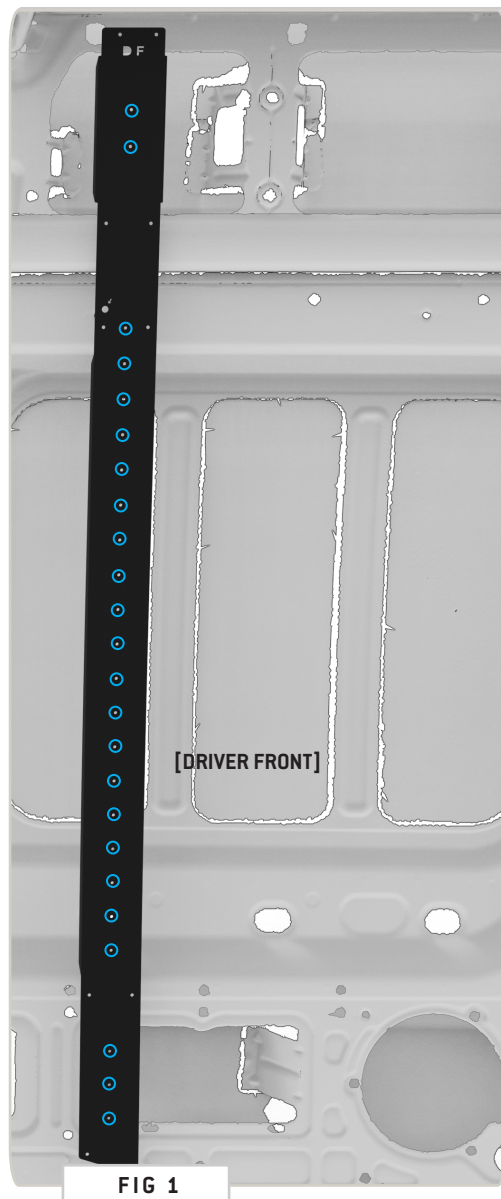

FIG 1
1.1 Identify Mounting Locations: Find the pre-threaded holes highlighted blue and green in **FIG 1 and 2**. You'll use the threaded holes highlighted **blue** to install the **Lower Tracks** and **green** for the **Upper Tracks**.